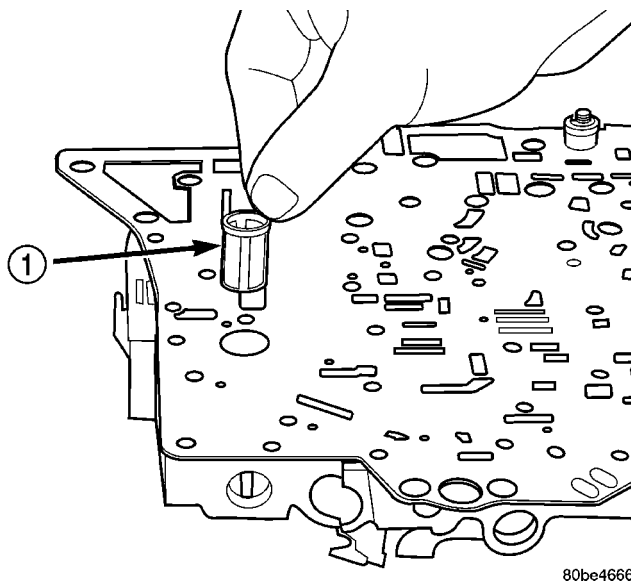

Fig. 348 Remove Oil Screen
(8) Remove oil screen (Fig. 348).